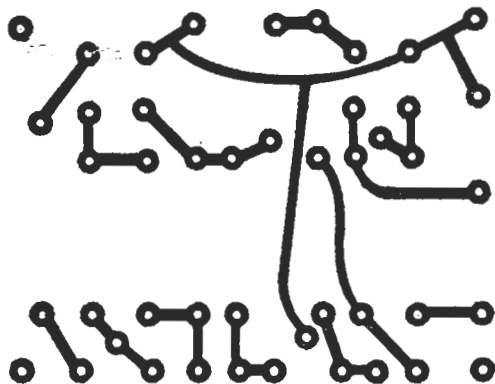

Fig. 2. Use best-quality copper-clad glass-epoxy base board to maintain high input resistance of pH meter.
**Construction.** The transistors, resistors, and other small components are mounted on a printed-circuit board shown full size in Fig. 2. Use glass-epoxy-base copper-clad board instead of the ordinary paper-phenolic type to maintain high input resistance in humid weather. After the board is etched, wash it at least ½ hour in running water; then dry it thoroughly and drill it. Install all components, ex-